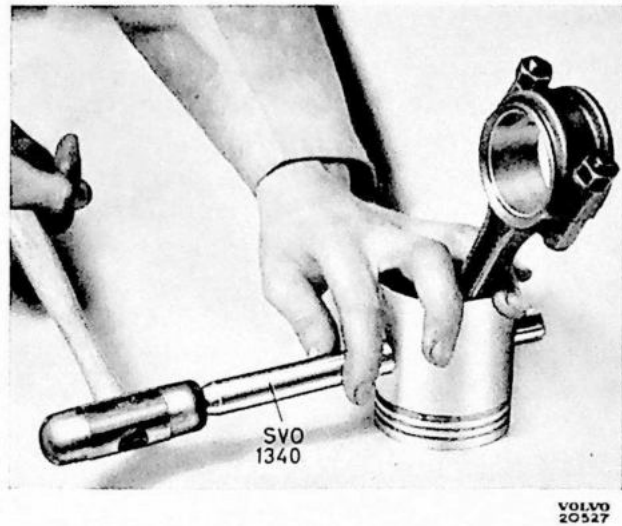

Fig. 30. Removing a piston pin.
19. Remove the pistons from the connecting rods. Use tool SVO 1340, see Fig. 30.